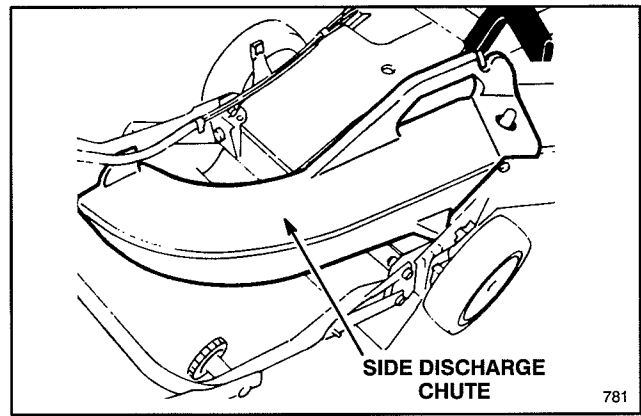

Figure 29
2. Side Discharge Kit, Model 59189—Install discharge tunnel and rear mounting side discharge chute to convert Recycler II® Super Pro® mower to a side discharge mower (Fig. 29). Includes discharge tunnel plug.